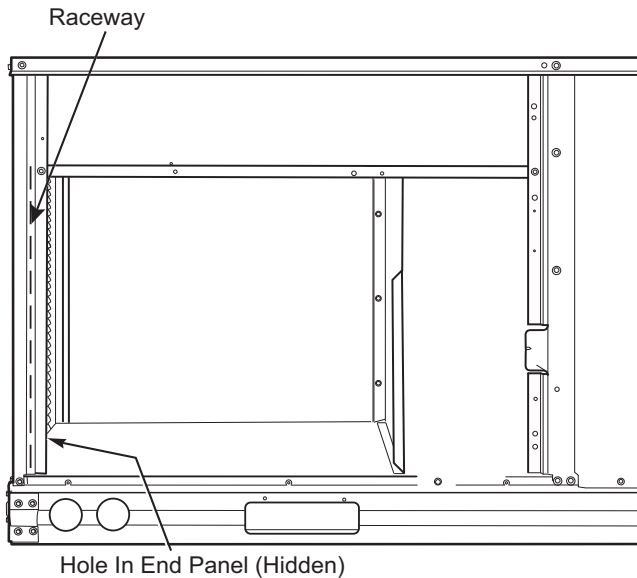

Fig. 32 — Field Control Wiring Raceway
Pass the thermostat control wires through the hole provided in the corner post; then feed the wires through the raceway built into the corner post to the control box. Pull the wires over to the terminal strip on the upper-left corner of the Unit Control Board. See Fig. 32.
2. Feed wires through the raceway built into the corner post (see Fig. 32) to the 24v barrier located on the left side of the control box. The raceway provides the UL-required clearance between high-voltage and low-voltage wiring.
2. Feed wires through the raceway built into the corner post (see Fig. 32 on page 19) to the 24-v barrier located on the left side of the control box. The raceway provides the UL-required clearance between high-voltage and low-voltage wiring.